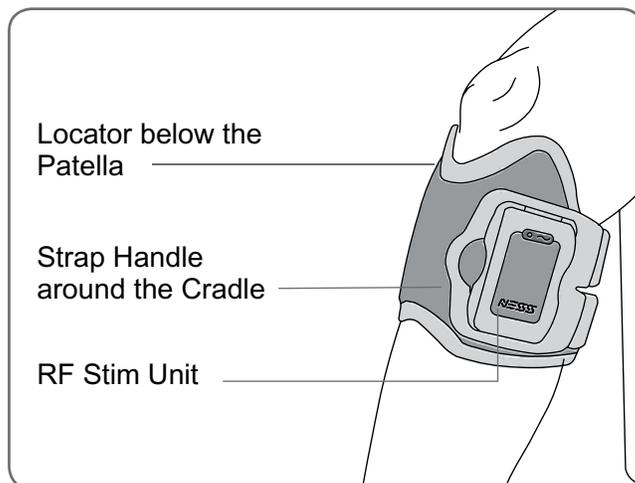

Figure 10-8: Regular L300 FS Cuff on the right leg.
5. Make sure the fastened L300 FS Cuff fits comfortably, with the locator below the patella and the strap handle around the cradle, as shown in Figure 10-8.